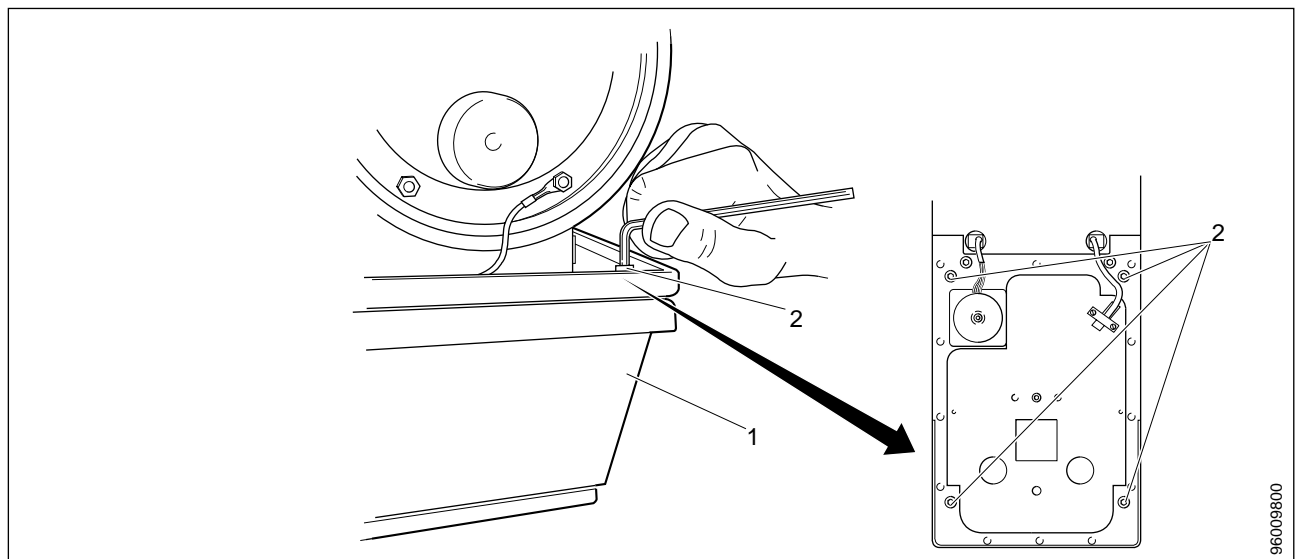

Fig. 2 Removal of collimator cover
3. Remove the collimator cover (1/Fig. 2) by unscrewing the four Allen screws (2/Fig. 2).
Do not remove any other screws than (2/Fig. 2).
4. Let the cover (1/Fig. 2) hang down from the diaphragm holder cable.